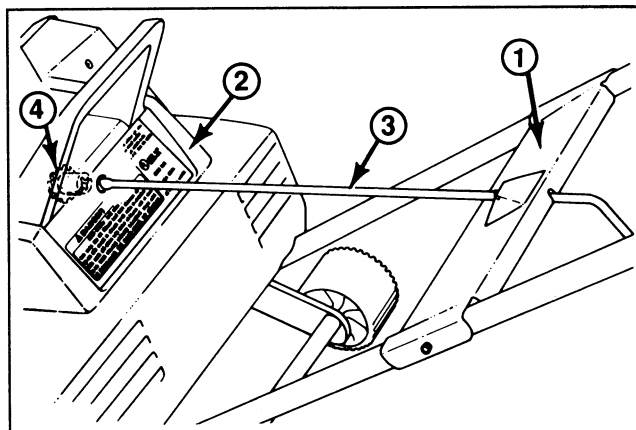

Figure 2
5. Place the mounting plate over the tubes (Fig. 2). Align mounting plate holes with upper and lower tubing holes.
6. Insert end of chute crank through hole in shroud. Turn chute crank rod **lightly** until flattened end drops into slot in gear. Firmly push chute crank into gear until it snaps into place (Fig. 2 & 3).